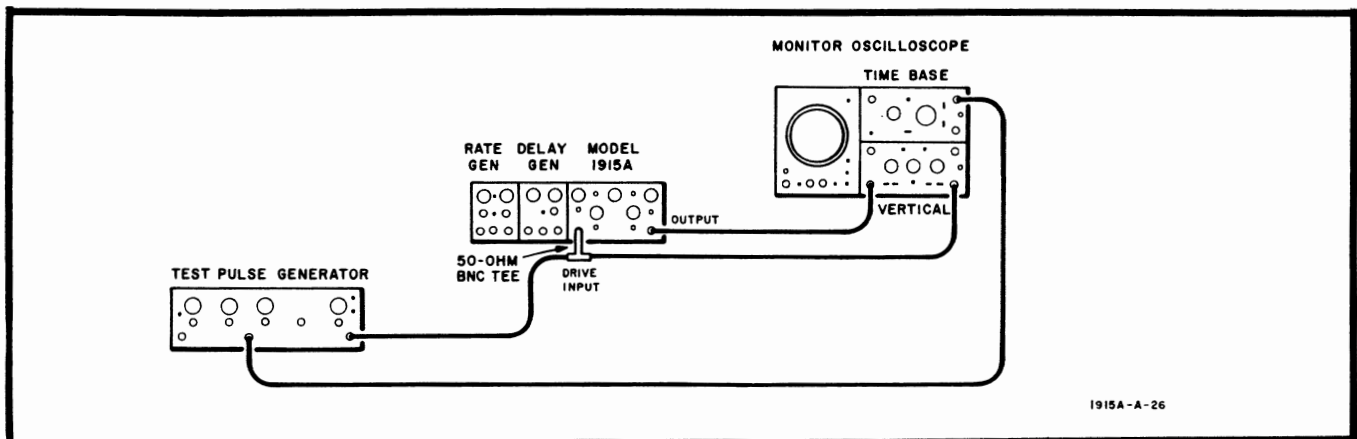

Figure 5-8. Drive Sensitivity Test Setup
- a. Connect equipment as shown in Figure 5-8.